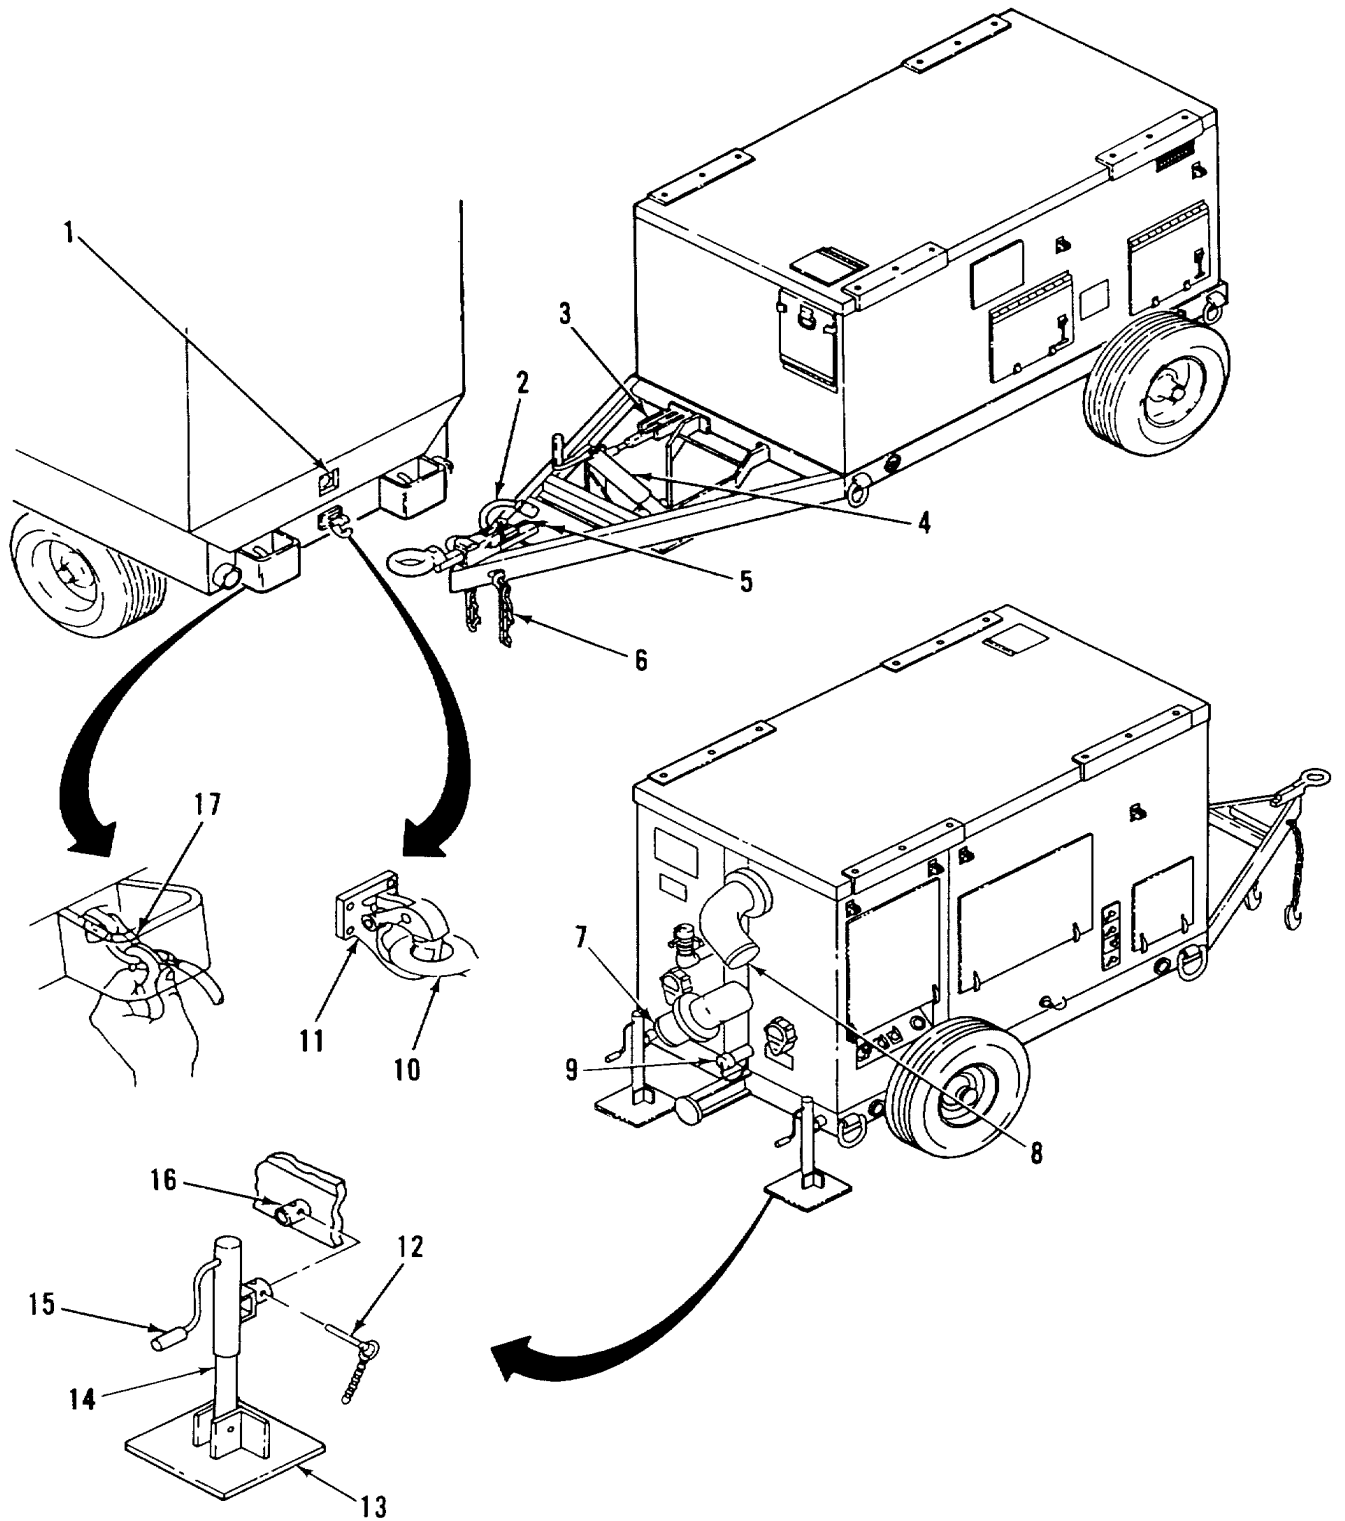

Figure 2-8. Preparation for Movement
- (7) Check that ENGINE VOLTS meter (1) is indicating in green range.
- (8) Turn MANUAL THROTTLE (4) to desired speed. Refer to supervisor for instructions regarding desired speed. See Figure 2-8 (Control Panel Decals and Instruction Plates) operating graph.
- b. Prepare Pumping Assembly. Perform the following (Figure 2-8):
- (1) Remove pump drain cap (9) and allow pump to drain.
- (2) When all water has drained from pump, reinstall drain cap (9).
- (3) Install protective covers on pump suction and discharge ports (7 and 8).